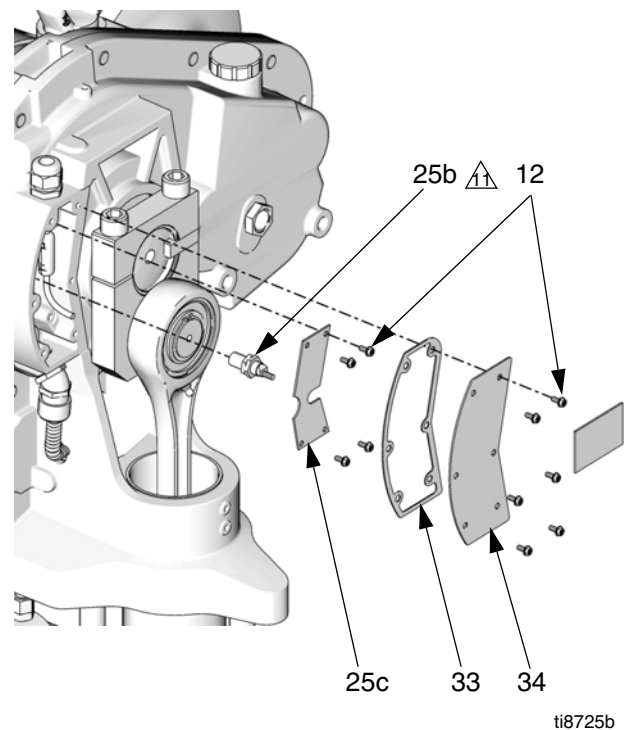

FIG. 12. TDC Sensor
4. Remove two screws (12) and the cover (32).
5. See FIG. 12. Remove six screws (12), the circuit board cover (34), and the gasket (33).
9. See FIG. 12. Remove four screws (12) and the circuit board (25c).
12. Install the circuit board (25c) using four screws (12).
16. Install the new gasket (33), the cover (34), and six screws (12).
17. Reinstall the cover (32) with two screws (12).
6. Disconnect the position sensor wires and the IS circuit field wires from the two terminal blocks (46). Retain the terminal blocks. See the **Electrical Diagrams**, page 10.